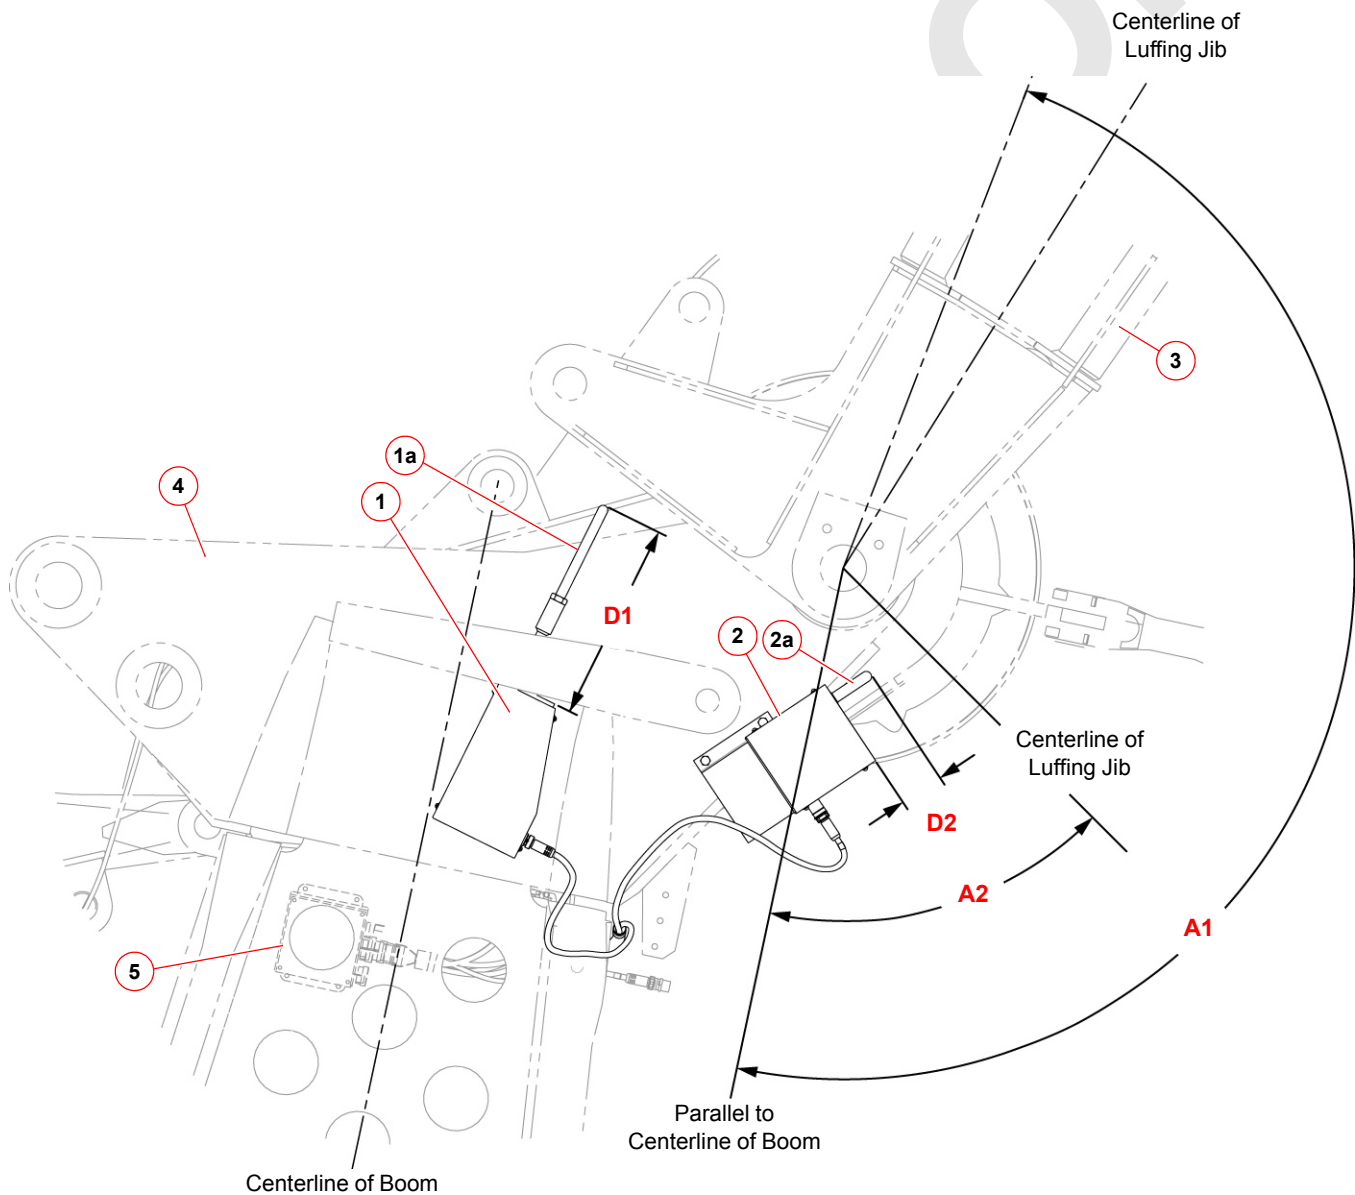

FIGURE 6-5
See Figure 6-5
1. If equipped, remove adjusting rod (1) and lock nut (2).
3. Slide spring washers (5 and 7) and spring (6) over new actuator rod (3a or 3b) while sliding the actuator rod into the limit switch bracket.
4. Position actuator rod (3a or 3b) so the tapered end of the rod just touches limit switch (6) roller (View A). **The actuator rod must not depress the limit switch roller.**
5. Drill a 1/4 in (6,35 mm) hole through spring washer (5) and actuator rod (3a or 3b).
6. Install dowel pin (4).
7. If equipped, install adjusting rod (1) and lock nut (2). Adjust the rod to deactivated Dimension **D1** (Figure 6-5).